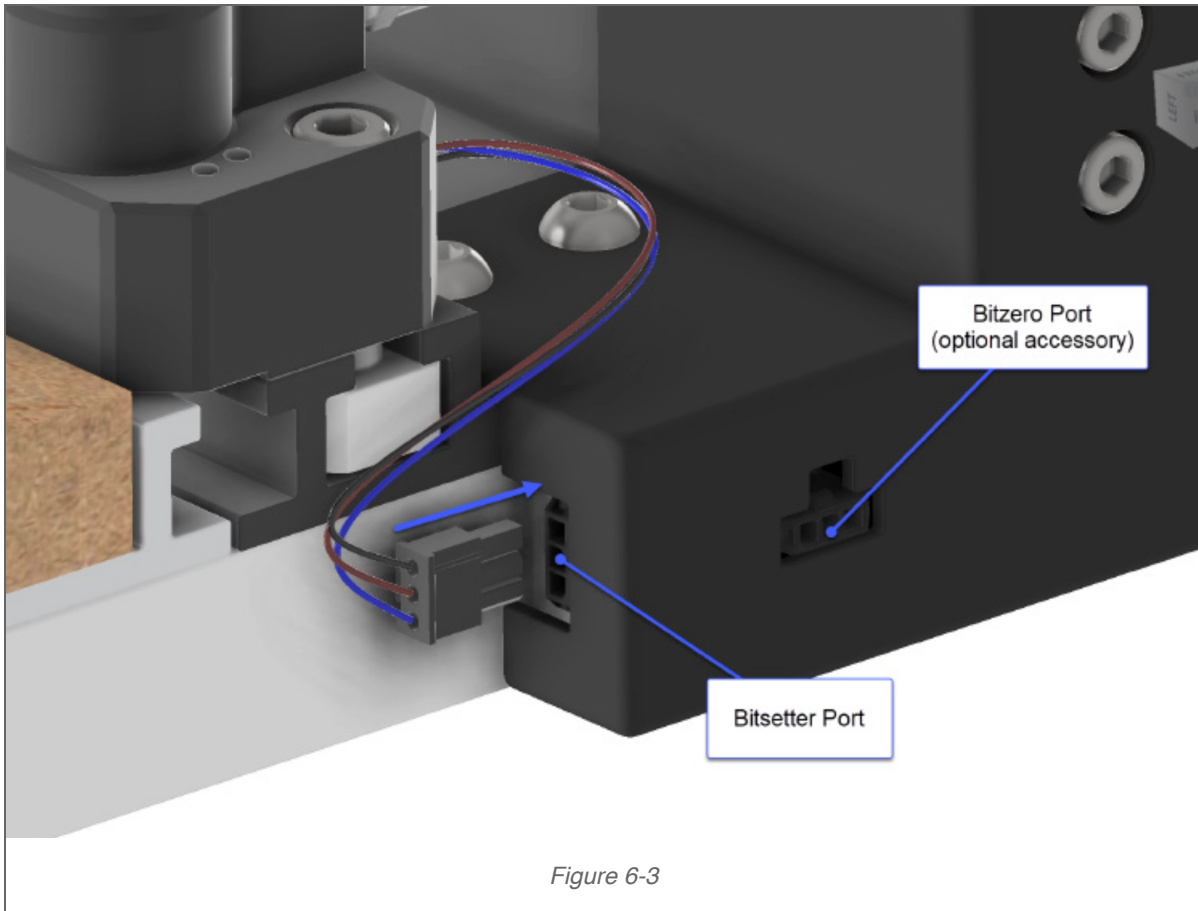

Figure 6-3
4. Use a 5mm hex key to loosely insert two (2) M6x30mm SHCS through the top of the BitSetter and into the Teez Nuts. See Fig. 6-3.
7. Plug the other end of the 3-pin extension cable into the 3-pin port on the BitSetter. See Fig. 6-3.